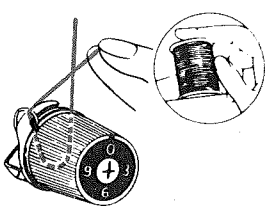

Fig. 2
2. Holding the spool stationary with the right hand pull the end of the thread between the tension discs. Pull the end of the thread taut so the spring wire loop (Fig. 2) passes up and past the top hook. The thread will slip into the hook.